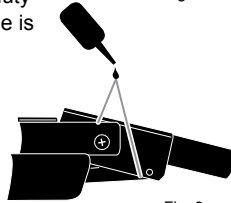

Fig. 9
**WORKING PARTS:** The working parts, like piston and mainspring require very little lubrication. Two drops of RWS Air Chamber Lube every 1000 shots will suffice. It is easily applied through the compression chamber port with a 3 1/2" applicator needle (See Fig. 8). The wearing surfaces at the barrel hinge, the cocking arm, and the trigger mechanism should be lubricated with a heavy duty grease lubricant. (See Fig. 9) Remember, a little is good – a lot is not better.